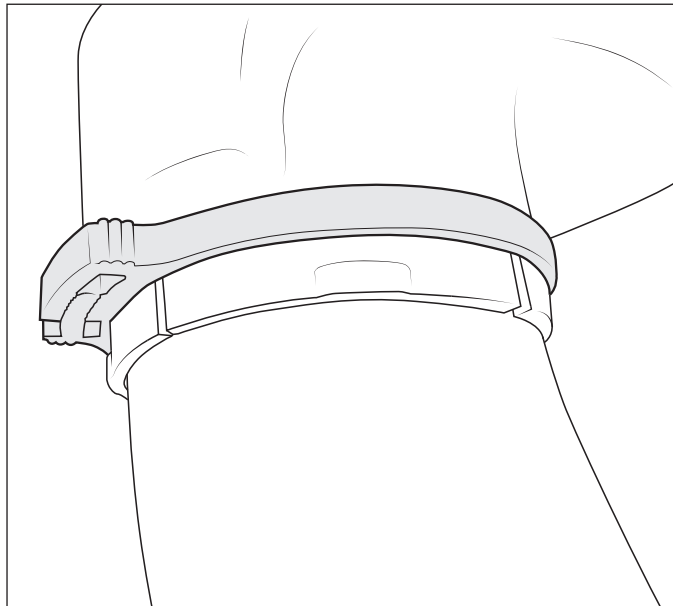

Figure 13
3. Install air ram so it is forward facing with provided clamp and tighten until snug enough to prevent lifting or twisting of the air ram (fig. 13). Depending on the clamp provided, channel locks, large pliers or a 5/16th wrench will be needed to get the clamp tight enough for good retention.